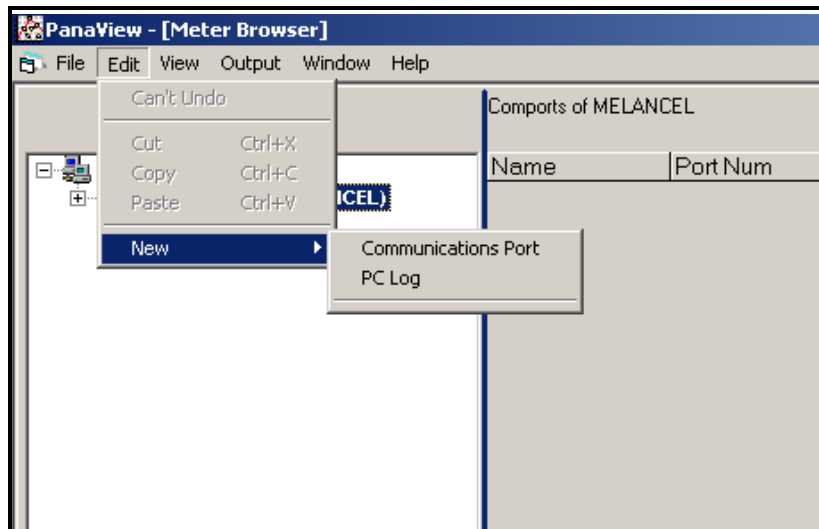

Figure F-2: The Edit Menu
3. Click on the “*New*” menu option to select it, and a submenu opens with two choices on it (see Figure F-2 below).